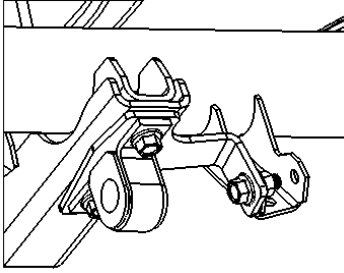

Figure 22. Installed on Axle
- Loosely reattach the sway bar, sway bar bushings, and bridge support brackets to the bottom of the Track Rod Mount Bridge and axle using the (2) M10-1.50 x 50 Hex Flange Bolts, (2) 1/2-13 x 1.25 Hex Flange Bolts, and (2) LHN 1/2-13 Nuts. See Figure 22
- Use (1) M12-1.75x30 fastener to finish mounting Bridge Support Bracket to the shock mount.